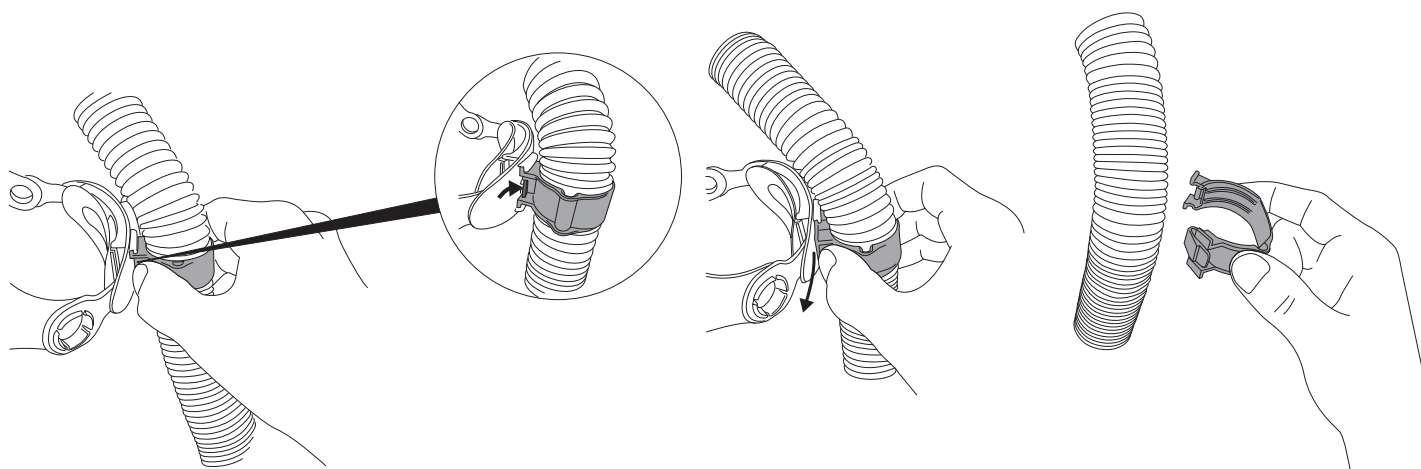

Fig. 29a
- a. Disconnect the welding helmet airduct tube (see “Connecting and Disconnecting Breathing Tubes” in “Operating Instructions”) (Fig. 29a).